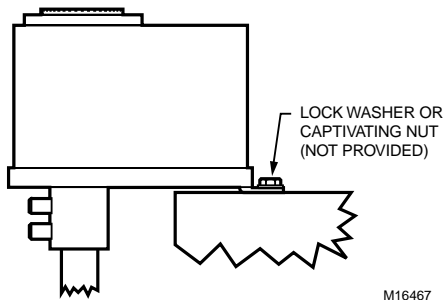

Fig. 3. Mounting ML7999.
4. Install the mounting bracket accessory (not included), if needed. See Fig. 3.